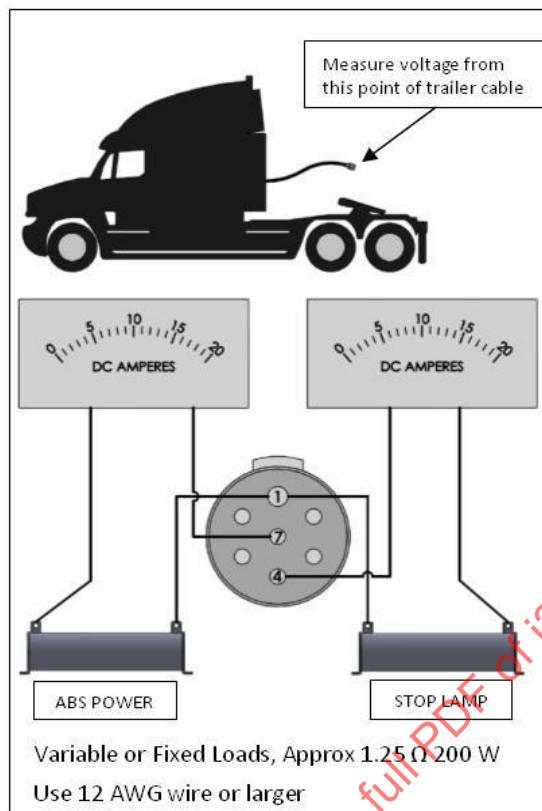

FIGURE 1 – TRACTOR POWER TEST CIRCUITS
- 5.6 Measure and record the voltage on the stop lamp and ABS circuits on the trailer load side of the SAE J560 Primary Connector as near as practical to the connector terminals. The minimum voltage should be 12.5 VDC at 20 °C  $\pm$  10 °C between each circuit to the ground terminal. See Figure 1 - If not, proceed to 5.7.